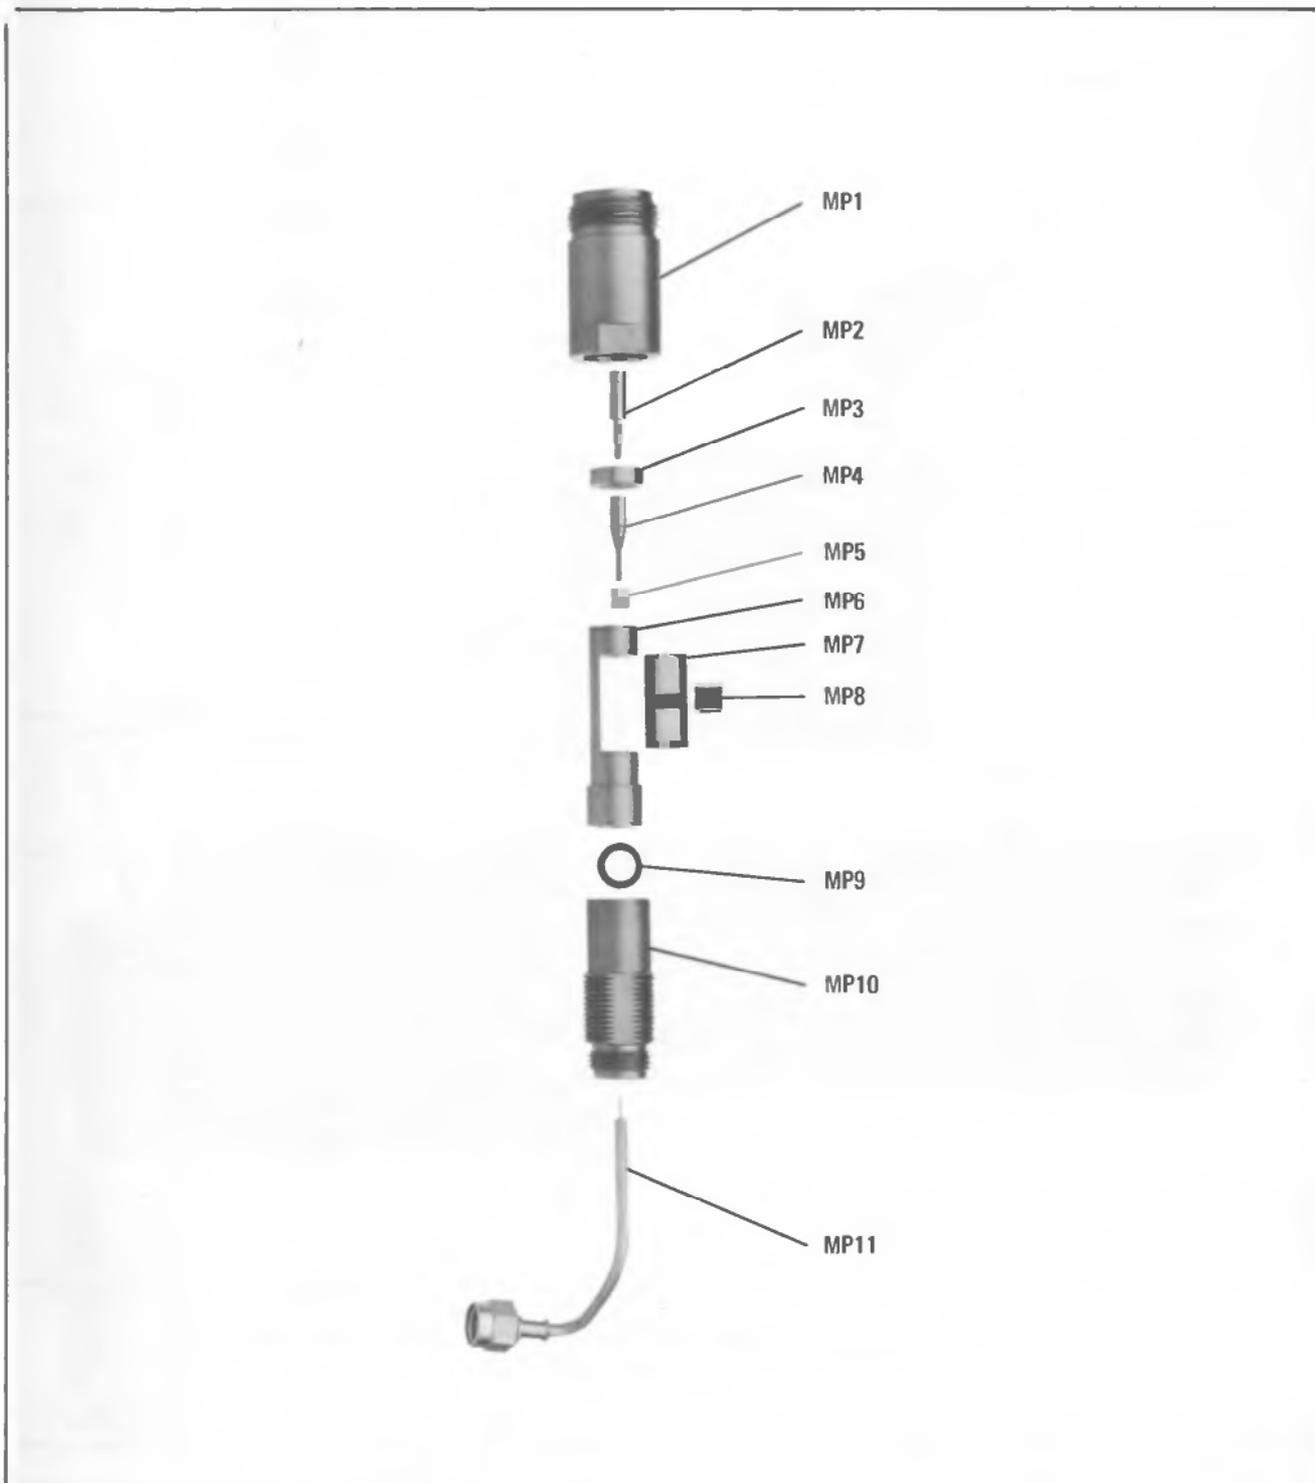

Figure 8-8. RF INPUT Jack J1, Exploded View
4. If necessary, unsolder C1 (J1MP8) from J1MP7. Correct orientation for J1MP8 and MP7 is shown in Figure 8-8.